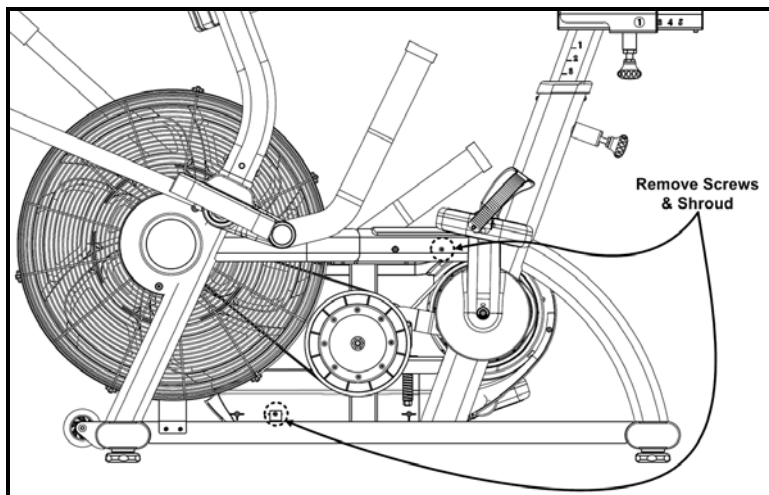

Fig. 5
- From the user left side of the base, remove the two phillips head screws (Fig. 5) that hold the large user right side shroud in place with a phillips head screwdriver and take off the shroud.